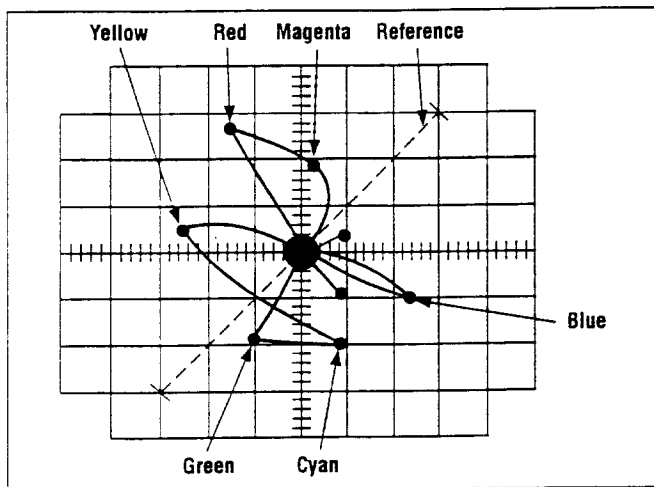

Fig. 7. Typical Vectorscope Display of Demodulated Color Bars Pattern Viewed on Conventional Oscilloscope.
If an NTSC vectorscope is not available, the demodulated color signals from the red and blue guns can be used as the X and Y inputs to a good laboratory oscilloscope (such as the **B+K Precision Model 2120**). The resulting display is a vectorscope pattern as shown in Fig. 7. The oscilloscope should be set up for vectorscope operation as follows:
6. A display similar to that shown in Fig. 7 should be obtained. However, several factors may affect the display as follows:
- a. The **HUE** control of the TV under test will rotate the display. The **HUE** control may be adjusted to obtain the display nearest to that shown in Fig. 7. Starting from a centered position, the **HUE** control can typically rotate the display $\pm 30^\circ$.